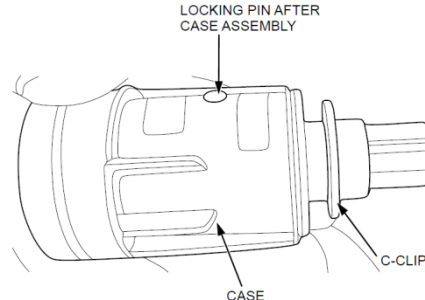

FIGURE 8
12. Insert the cylinder/sleeve into the case until the locking pin pops up on the case cavity.(refer to figure 8). Don't push the cylinder otherwise the tumblers will fall out.
13. Insert the c-clip at the back part of the cylinder(refer to figure 8)